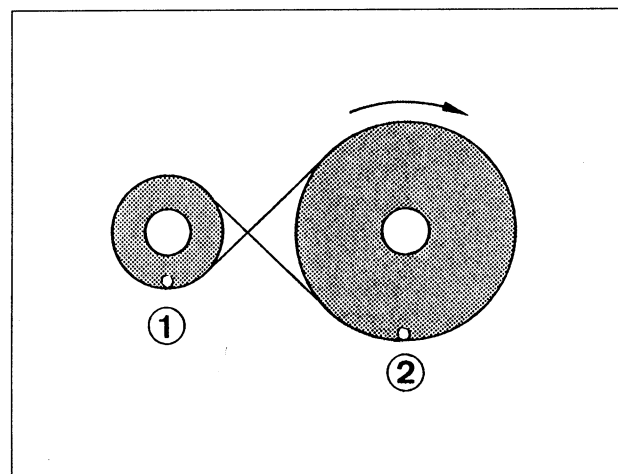

Fig. 3 Transmission with crossed transmission belt
10. Fit the transmission belt round the wheels as shown in fig. 3.
▶ Arrow in fig. 3.